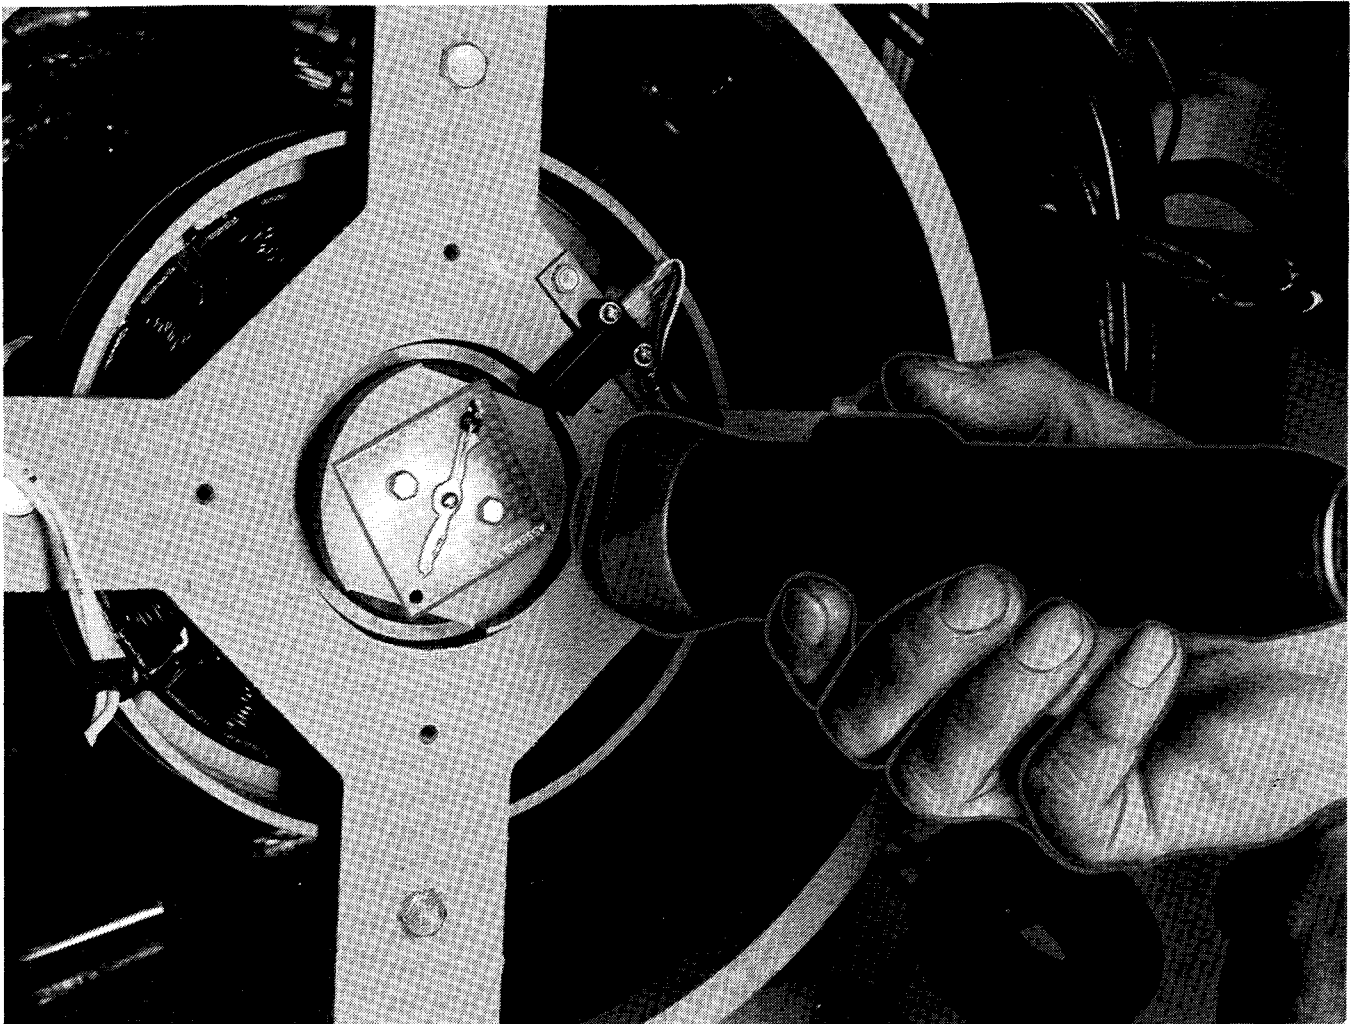

Figure 4-17. Flashlight Test
This section covers diagnostic procedures for units utilizing a photo transistor board similar to that shown in Figure 4-17. This type of photo transistor board is used with the standard one-piece FR acti-
8. Start set and shine bright flashlight on photo transistor board (see Figure 4-17). AC voltmeter